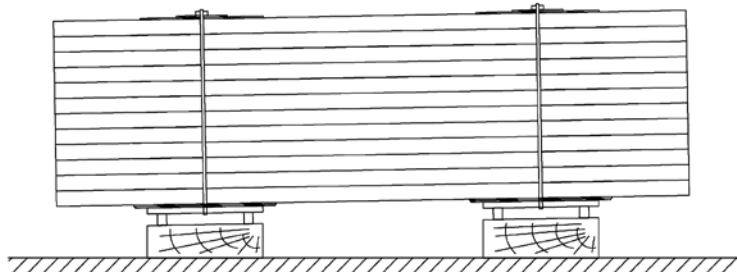

Fig. 12. Panels storage with difference of levels along side edge.
- Store Ruukki sandwich panels in slightly inclined position, on one side edge, to ensure free drainage of rainwater which might otherwise penetrate into the package – Fig.12.